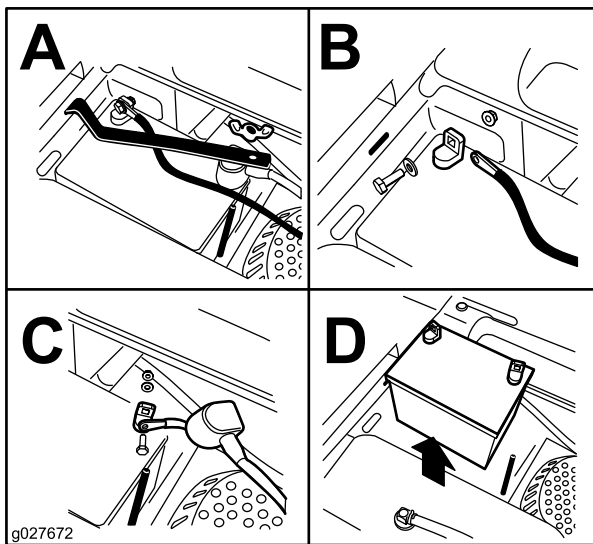

Figure 52
3. Remove the wing nut securing the battery clamp (Figure 52).
4. Remove the clamp (Figure 52).
5. First disconnect the negative battery cable (black) from the negative (-)(black) battery terminal (Figure 52).
6. Slide the red terminal boot off the positive (red) battery terminal and remove the positive (+)(red) battery cable (Figure 52).
1. Position the battery in the tray with the terminal posts opposite from the fuel tank (Figure 52).
4. Secure the cables with 2 bolts, 2 washers, and 2 locknuts (Figure 52).
6. Install the clamp and secure it with the wing nut (Figure 52).